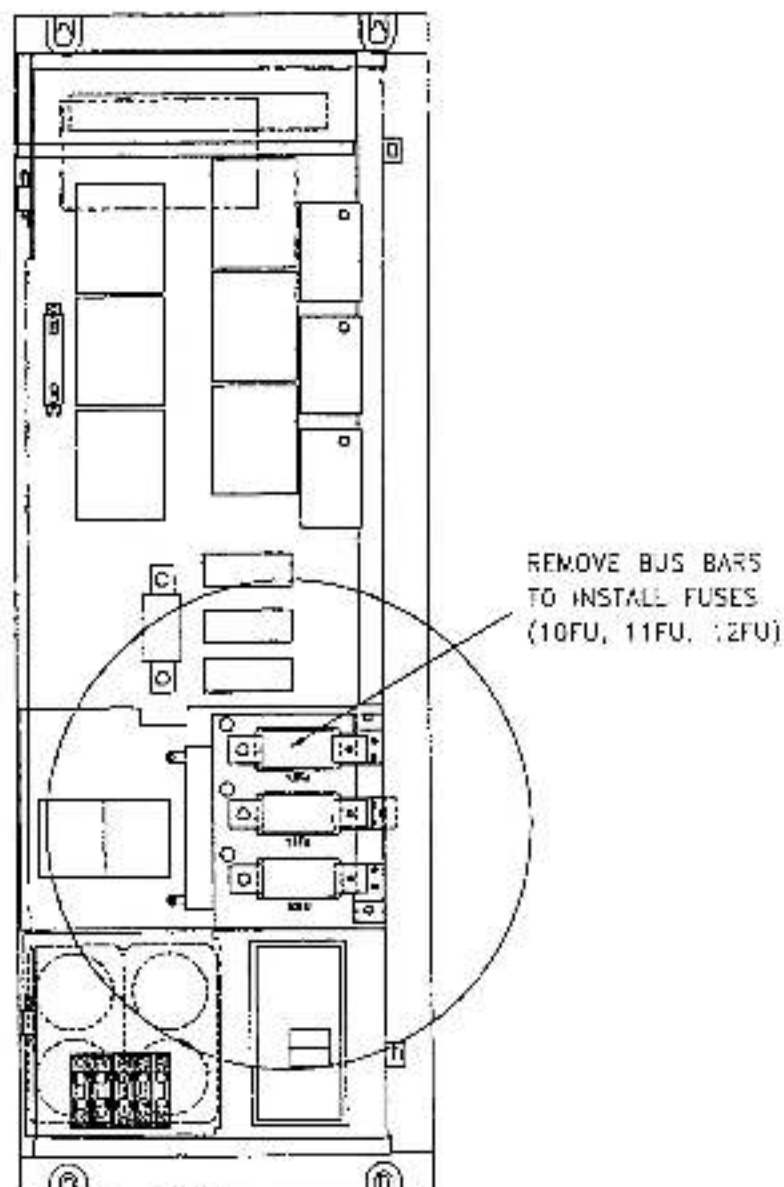

Figure 2. Fuse Installation Location.
2. Loosen the two (2) captive screws and open the hinged cabinet door.
3. Remove the three (3) fuse block bus bars from the existing fuse block as shown in Figure 2.